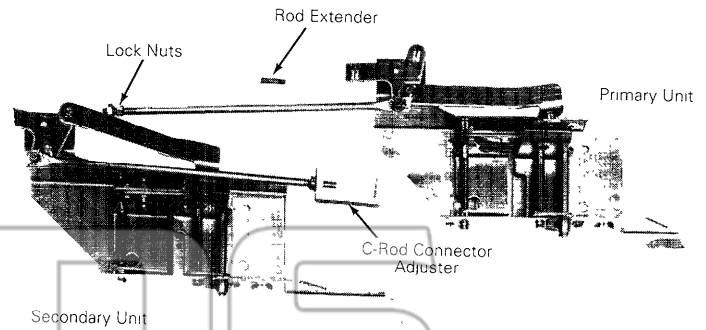

Figure 8. Attachment of the interconnection rod for a horizontal installation.
1. Attach the long rod ends to the pins on the pivots as shown in Figure 8. A variety of connecting hardware is provided in the Mechanical Interlock kit; the $\frac{1}{4}$ -20 threaded rod is supplied by the customer.